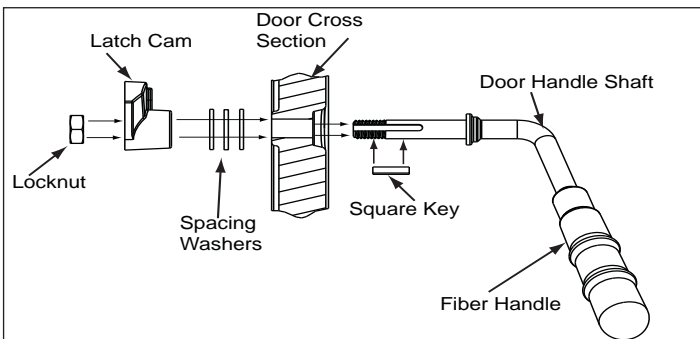

Figure 24.2 - Door Handle for Arched Door
7. Install handle turning in a counter-clockwise motion to desired location on door handle rod. **Figure 24.2**.